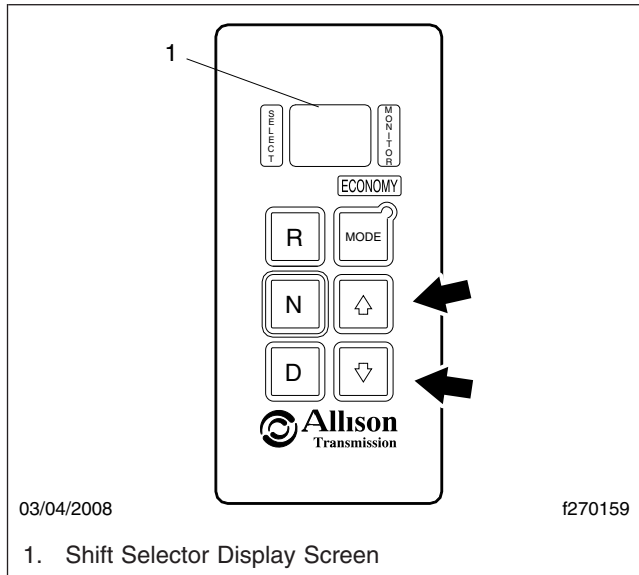

Fig. 3, Transmission Shift Selector
1. On the transmission shift selector, press the up and down arrow keys simultaneously. See Fig. 3.